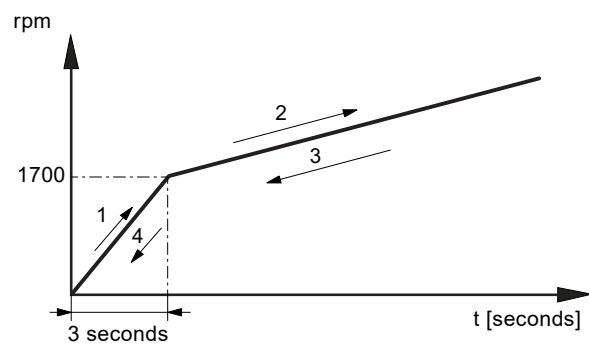

Fig. 18 Ramping up
1. Start the feed pump (1), and check that the inlet pressure (2) of the BMS hs pump (6) is higher than 1.0 bar and lower than 35.0 bar.
2. Vent the BMS hs pump (6).
3. Start the BMS hs pump (6). Ramp up the BMS hs pump (6) according to factory settings. See fig. 18 (1 and 2).